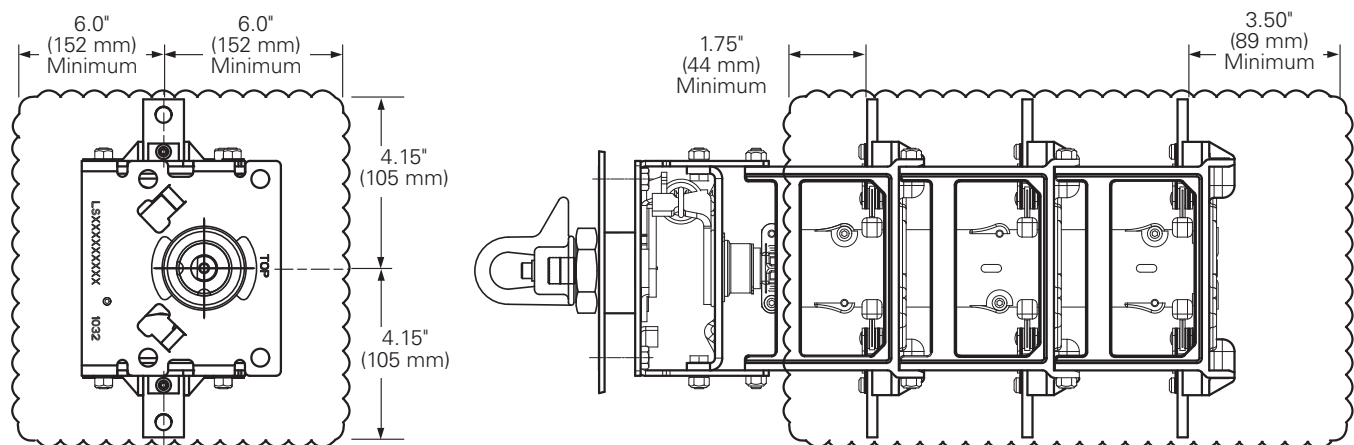

Figure 5. Arc clearance zone.
Note: The tank wall should have a 1.00"± .010" hole, (25.4 mm). Switch should be located to ensure recommended clearances in Figure 5 are maintained.
3. Bracket should be located to insure recommended clearances in Figure 5 are maintained.
Note: The tank wall should have a 1.320" (33.5 mm) diameter hole with an anti-rotation key. Switch should be located to ensure recommended clearances in Figure 5 are maintained.
The outline drawing shown in Figure 5 describes the switch and its application to oil-filled apparatus. This information should be used only by trained personnel familiar with the design requirements for oil-filled apparatus. This information is not intended as a substitute for adequate training and experience in such design. Should clarification or further information be required for the user's purposes, contact your Eaton representative.